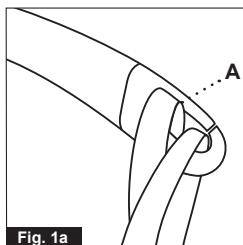

Fig. 1a
Be careful when attaching the lifting sling on the hooks. Check that the straps have been pulled completely through the rubber safety catch (A) and into place in the lifting hanger's hooks. When pressing the up button to lift the user, check again that all the straps remain correctly placed in the lifting hanger's hooks (fig. 1a and fig. 1b).